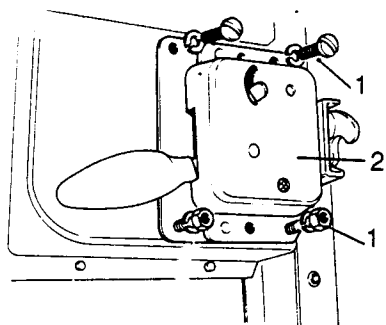

Fig M3.5
- (1) Refer to Fig M3.5. Remove the fixings (1).
- (2) Withdraw the door lock (2).
- (3) If required, remove the striker plate from its support bracket (2 screws).